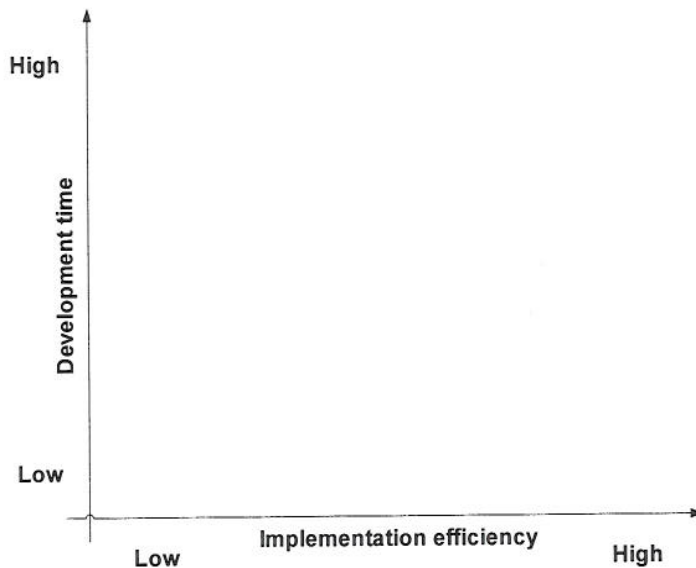

Figure 1.1 Development time – implementation efficiency space
- b) Discuss the implementation options above in terms of implementation efficiency (transistor density per unit area, performance) and development time (including both design time and fabrication time). Give their relative position in the 2-D space (development time, implementation efficiency) in Figure 1.1. [10]